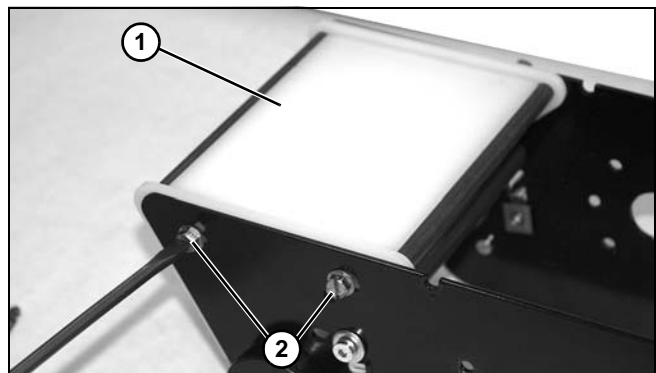

Figure 136
4. Install wear bar assembly (**Figure 136, item 1**) with two bolts (**Figure 136, item 2**) on each side of power transfer.